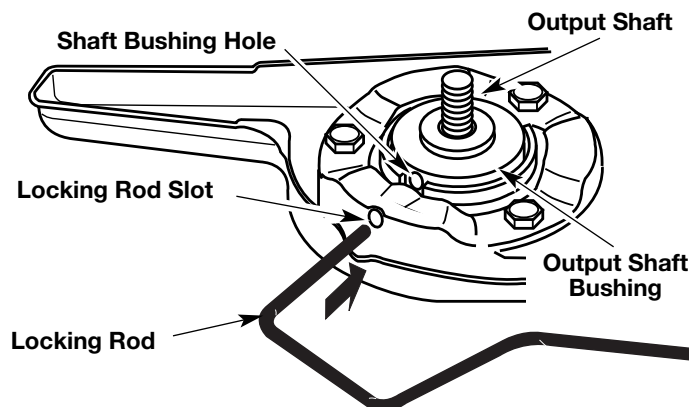
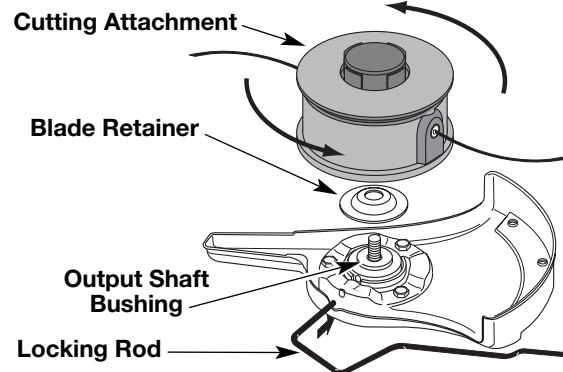

Fig. 7
Fig. 14
1. Align the shaft bushing hole with the locking rod slot and insert the locking rod into the shaft bushing hole (Fig. 7).
- Align the shaft bushing hole with the locking rod slot and insert the locking rod into the bushing hole (Fig. 7).
- Align the shaft bushing hole with the locking rod slot and insert the locking rod into the shaft bushing hole (Fig. 7). Place the blade retainer on the output shaft with the flat surface against the output shaft bushing (Fig. 14). Screw the cutting attachment counterclockwise onto the output shaft. Tighten securely.
3. Fully press and release the primer bulb 10 times, slowly. Some amount of fuel should be visible in the primer bulb and fuel lines (Fig. 7). If you can't see fuel in the bulb, press and release the bulb as many times as it takes before you can see fuel in it.
9. Once the engine is warmed up, place the blue choke lever in **Position 3** (Fig. 7). The unit is ready for use.
IF... The engine hesitates, return choke lever to Position 2 (Fig. 7) and continue warm up.